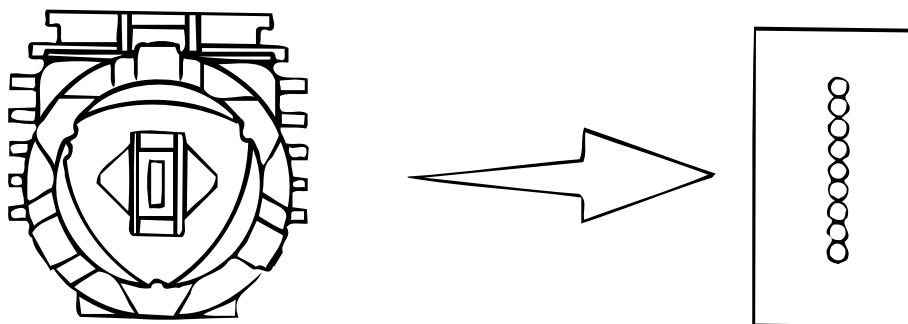

Figure 2-2 Arrangement of the Head Pins View from the Tip of the Printhead
2.2.1 Printhead Mechanism and Operation (See Figure 2-2.)